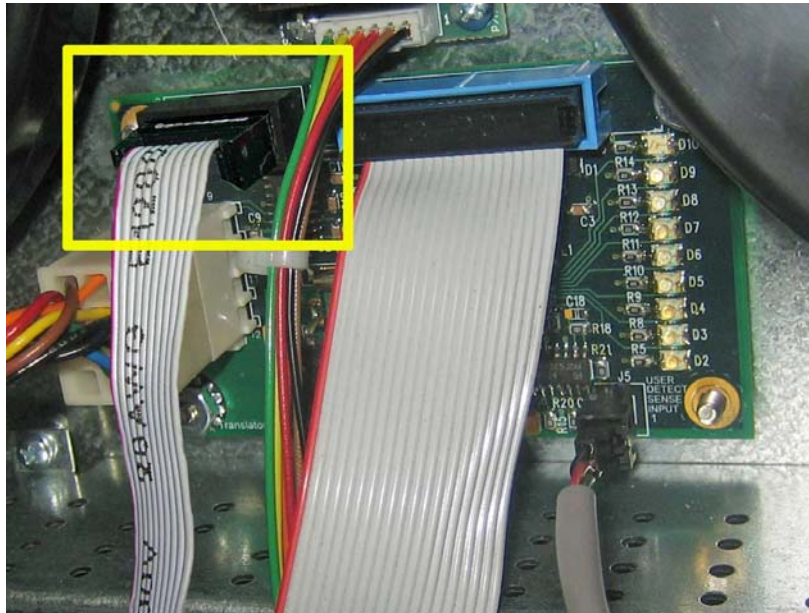

Fig. 10
8. Turn the treadmill on if the Error Code 38 does not appear, turn the treadmill on and go to step 9. If the Error Code 38 continues, use the FISP Uploader to reinstall the translator board software (Fig. 10)